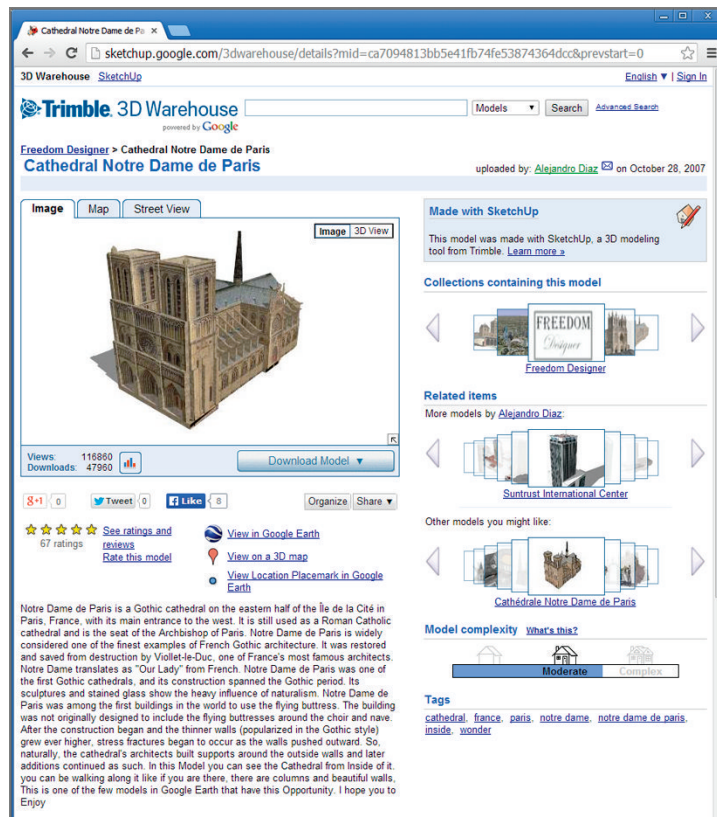

FIGURE 15.5 Downloading a model from the 3D Warehouse
1. Open your web browser and go to <http://sketchup.google.com/3dwarehouse> to access Trimble 3D Warehouse. Type **Notre Dame** in the search bar and click the Search button. Select the Notre Dame de Paris model by Alejandro Diaz, which is the top result as of the date of this book's publication (see Figure 15.5). Click the Download Model button, select SketchUp 6 (.skp) from the menu that appears, and save it to your downloads folder.